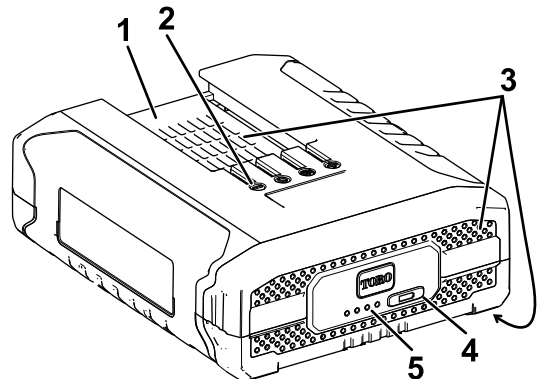

Figure 8
3. Line up the cavity in the battery pack (Figure 8) with the tongue on the charger.